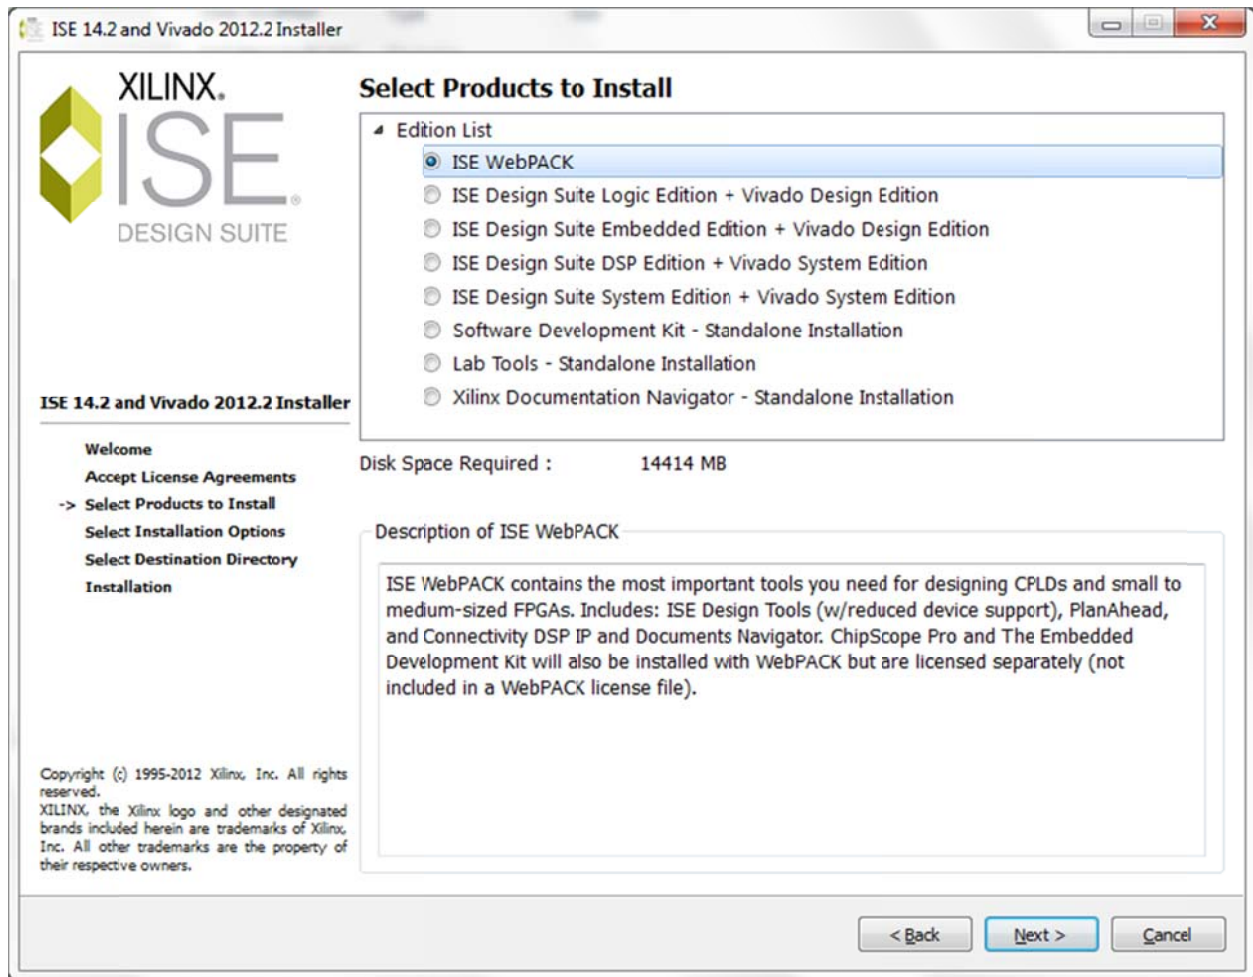

Figure 1A
1. Download the XILINX ISE tool from the internet (~6GB). And Start the installation process. You will get the window shown in Figure 1A. Choose **ISE WebPack**.